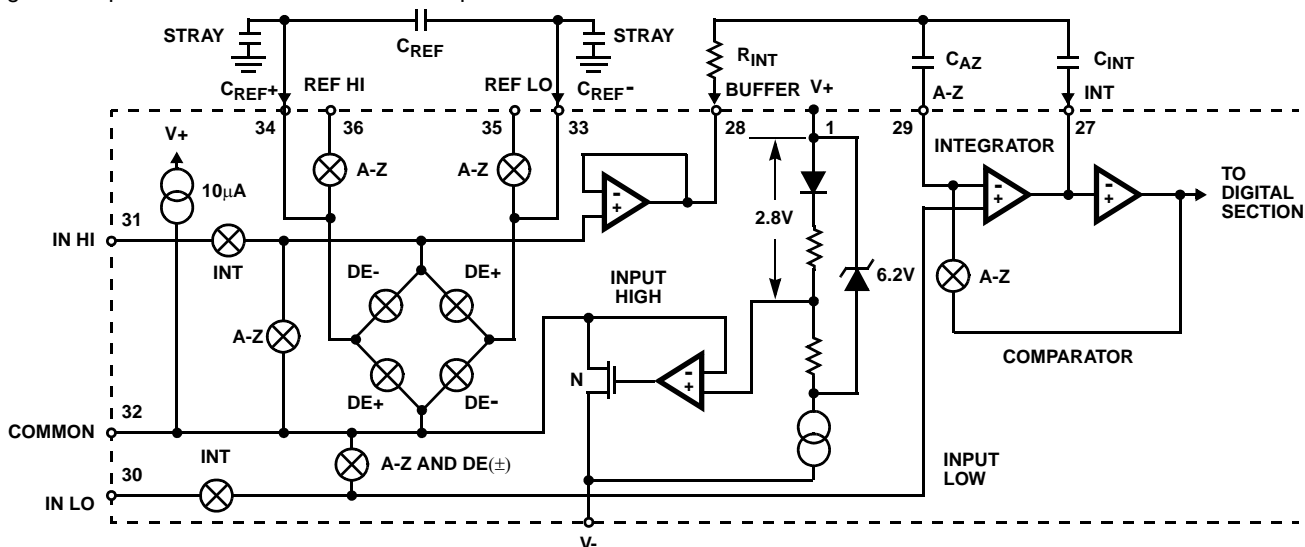

FIGURE 3. ANALOG SECTION OF ICL7106 AND ICL7107
Figure 3 shows the Analog Section for the ICL7106 and ICL7107. Each measurement cycle is divided into three phases. They are (1) auto-zero (A-Z), (2) signal integrate (INT) and (3) de-integrate (DE).